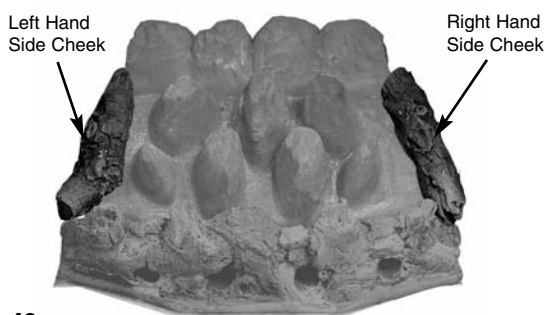

Fig. 42
4. Place the side cheeks into position, making sure they are positioned either side of the fuel bed and the overhang is at the front. The outside edge should be in contact with the radiant box ceramic liner. Ensure that the lower part of the side cheeks sit on the front coal and are in front of the rear coal (Fig. 42).